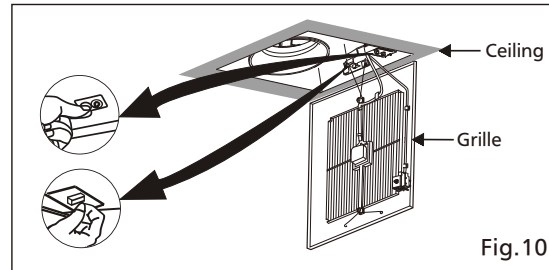

Fig.10
13. Adjust Pick-A-Flow switch; if used, adjust the FV-VS15VK1 Multi-Speed module. (Fig.10)